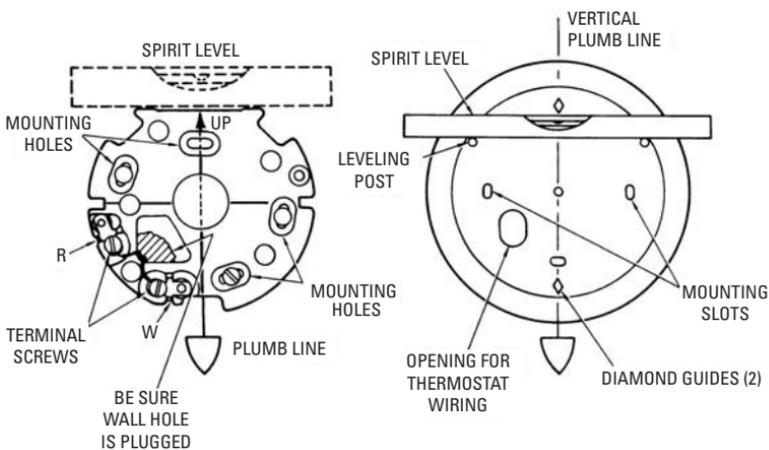

Figure 4-26 Using a plumb line and level. (Courtesy Honeywell Tradeline Controls)
4. Use a plumb line or spirit level to accurately level the subbase or wall plate when mounting it on the wall (see Figure 4-26). Thermostat control deviations are often caused by inaccurate leveling.